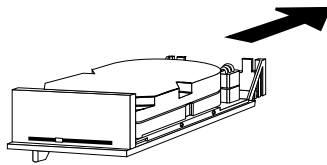

Figure 2-5 Orientation of the Drive
- Pick up the drive so the green lever is facing you and is on the bottom of the drive, as shown in Figure 2-5.